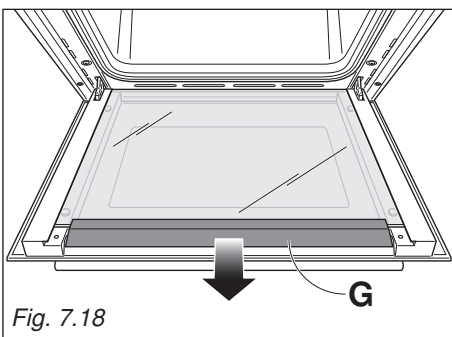

Fig. 7.18
- Gently remove the air deflector "G" at the top of the oven door (fig. 7.18).